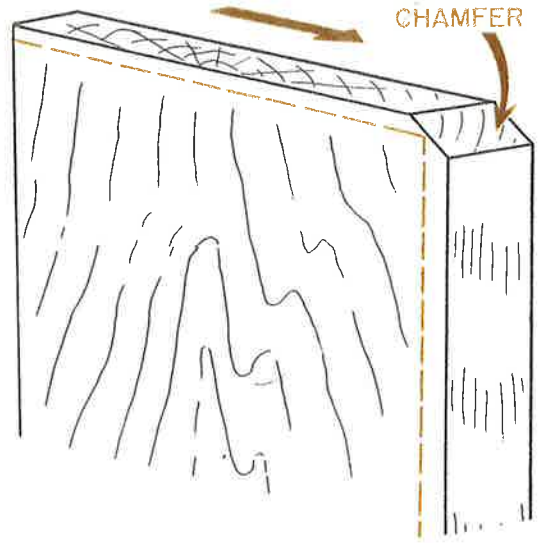

Fig. 10-10. Chamfering an end for end planing.
- a. Cut the end to make a chamfer as shown in Fig. 10-10. See Unit 11, *Shaping a Chamfer and a Bevel*, for details of a chamfer. This should be cut from the unfinished edge. You may then plane in the direction of the arrow without splitting the edge.